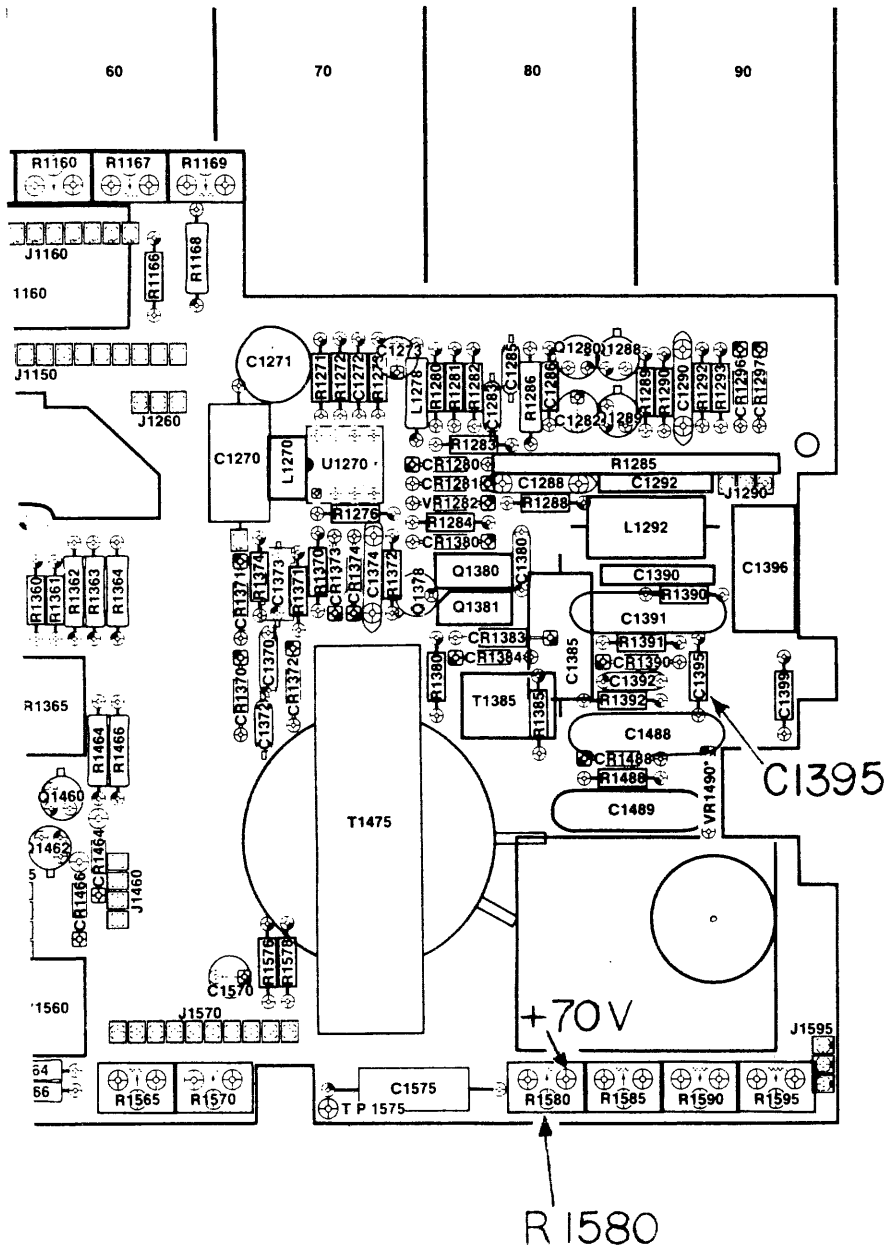

Fig. 2 Partial - Main circuit board
- ( ) 3. Remove the Geometry adjust potentiometer, R1580 (refer to Fig. 2).
- ( ) 5. If your instrument has a red-violet wire soldered to the board at the location labeled +70V in Fig. 2, remove the wire from the board, and remove it from the pin in the crt socket to which it connects.